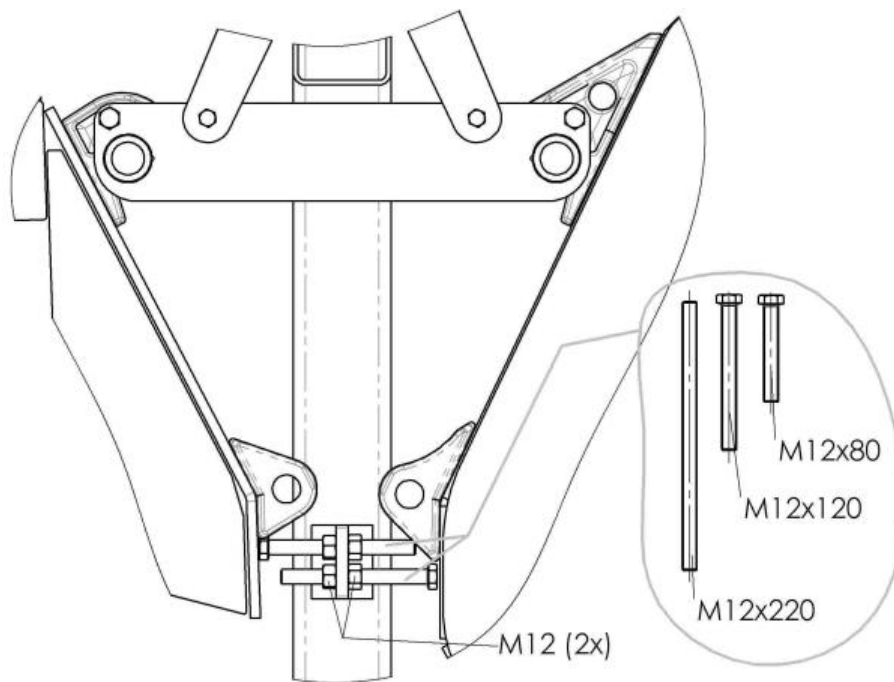

Fig. 4 - Setting the inclination of the tool using screw stops
- c. Different types of tools may have different back panel inclinations. That is why there are several screws or threaded rods in the tool rack (Fig. 4). The stop screw length is selected based on the type of tool, this then allows you to align the tool horizontally, i.e., for example, a M12x80 screw for a shovel, and the threaded bar for fork tongs. The stop screw itself is secured with two lock nuts in the brackets on the tool rack. They must be set in such a way that the mounted tool rests on both stop screws.